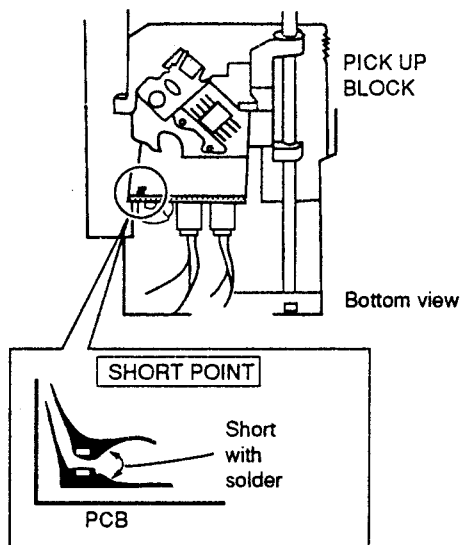

Fig. 3-1
- 2) Short the circuit on the PICK UP BLOCK with solder as shown in Fig. 3-1.
- 3) Disconnect the P200, P201, P202, P203 and P204 connectors on the TU-CD PCB. Be sure to short the shorting point on the PICK UP PCB before disconnecting the P200 and P201 connectors. (Refer to Fig. 3-1 on page 9.)